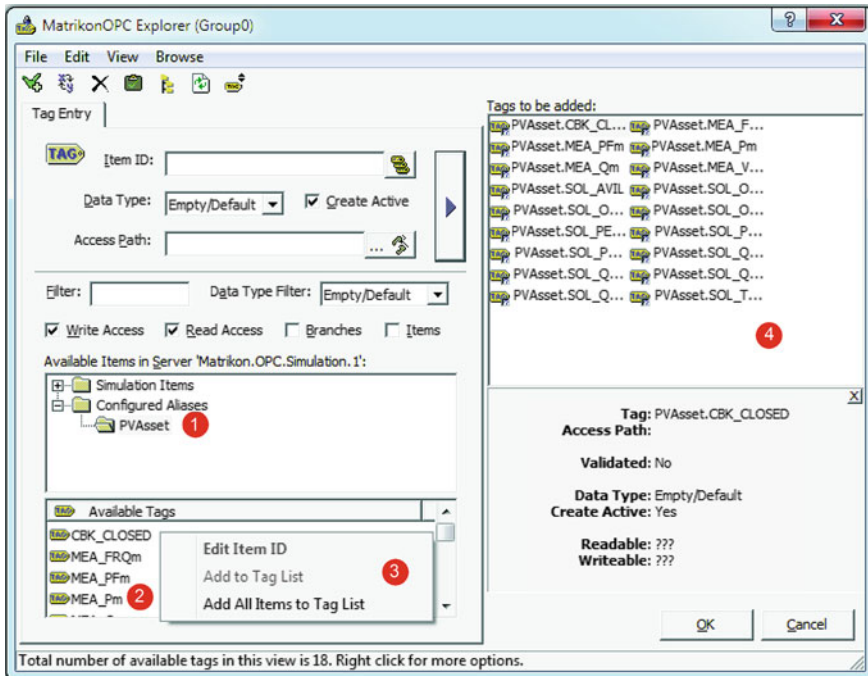

Fig. 16.12 MatrikonOPC server explorer—data tag configuration
6. Click the “Add Tags” button to bring up the tag configuration screen as shown in Fig. 16.12.
7. Choose the “PVAsset” group from the “Available Items” tree view (marked ① in Fig. 16.12) and note that the tags imported into the OPC server are showing in the “Available Tags” list (marked ② in Fig. 16.12)
8. Right click in the “Available Tags” list view and choose “Add all items to tag list” from the context menu (marked ③ in Fig. 16.12)
9. Note all the tags showing up in the “Tags to be added list” (marked ④ in Fig. 16.12)